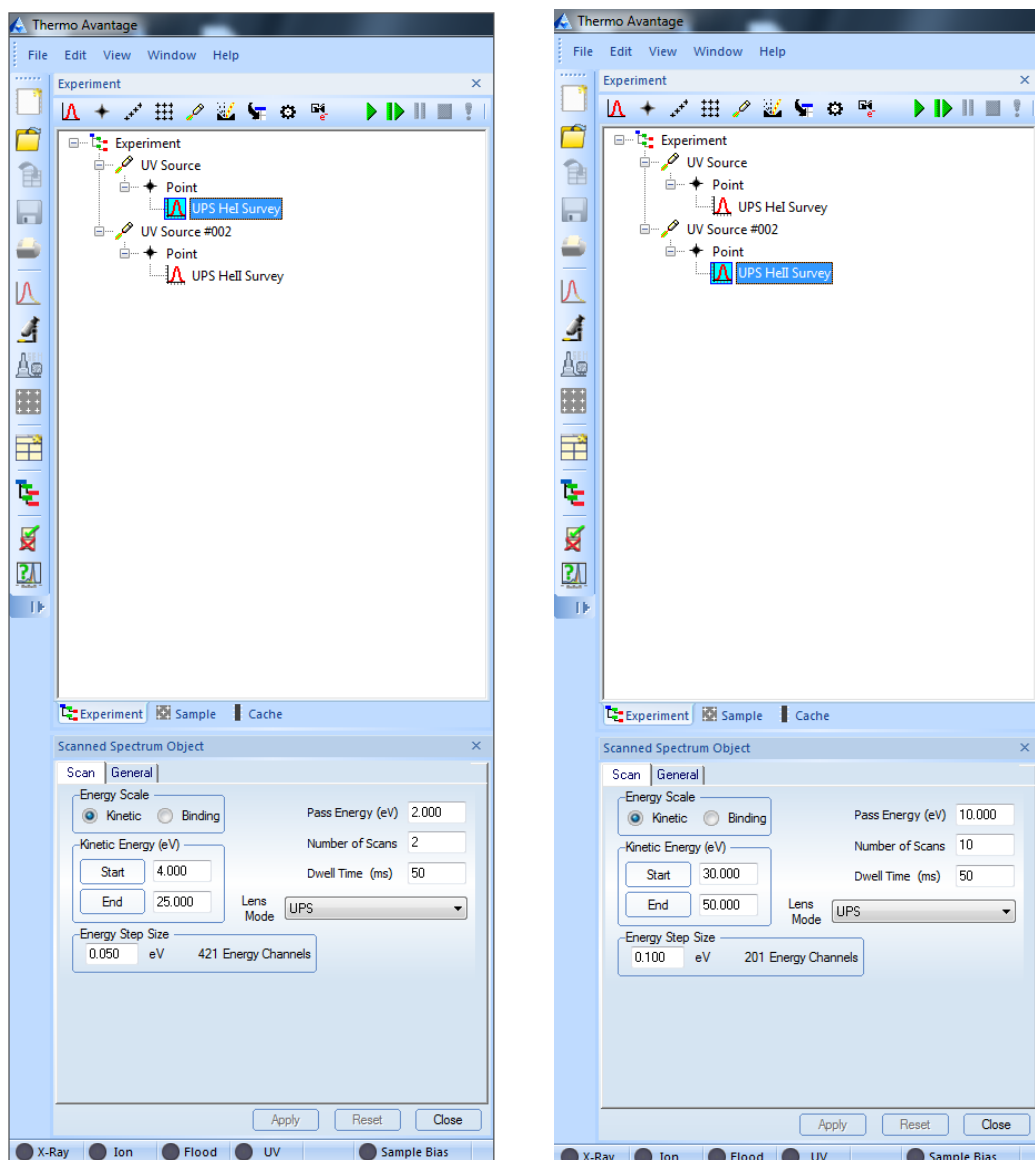

Figure 80: Example of UPS experiments with default parameters
3. Add a sample position 'Point' to the UV Source object (**Figure 80**), and a spectrum acquisition object using the **Multi-Spectrum Tool** (note only the **UPS He Survey** control is used for UPS), which will use the default parameters.